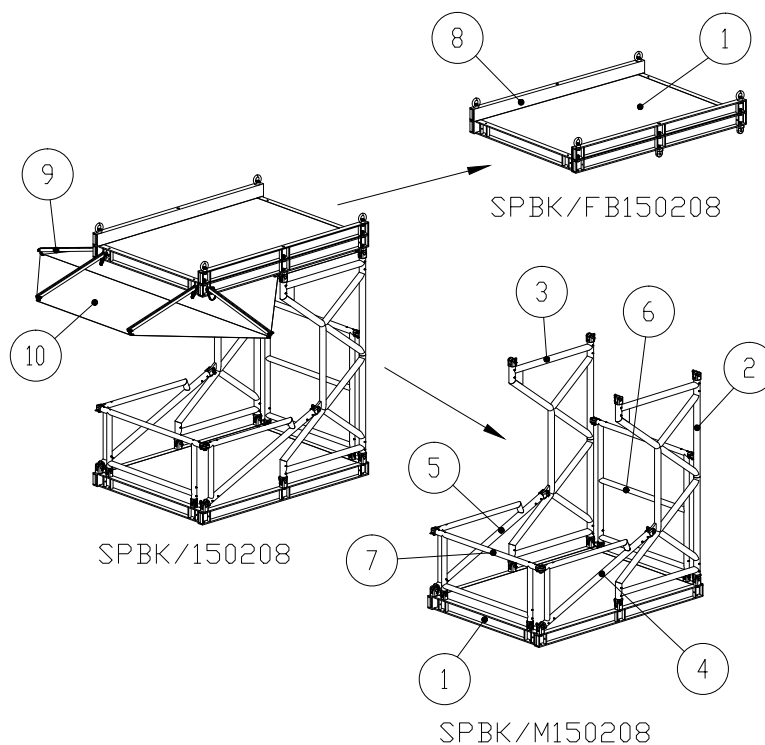

Figure 1: Spot Basket main components
Spot Basket is composed of two main structures (see Fig.1): A top element (SPBK/FB150208), with the function of suspension element (flying bar), and one or more (max 4) basket modules (SPBK/M150208).
In turn, top element and basket module, are composed by basic elements. These components are listed in the following table with reference to the numbering indicated in the figure 1.
- The "U" forks (ST6060M16 and ST5050M12) must not be installed on the platform of the top element (SPBK/FB150208 in figure 1)